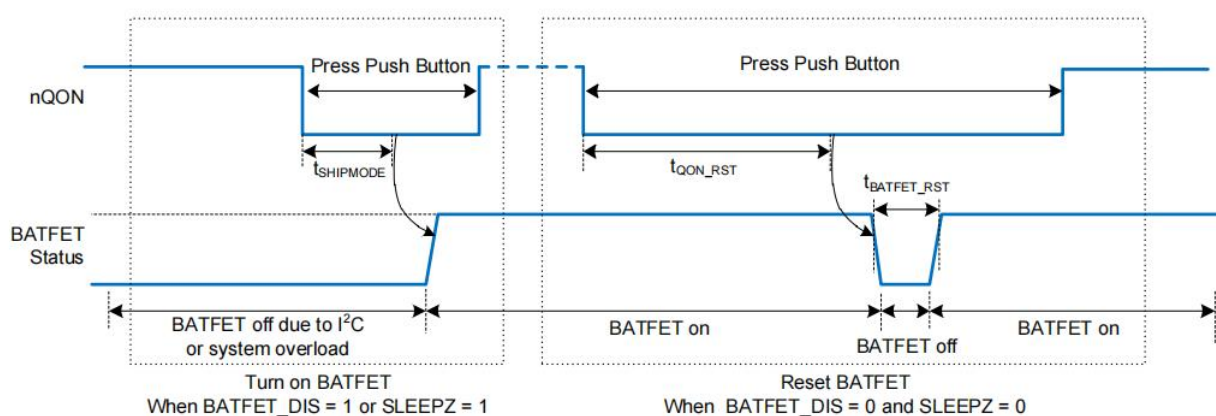

Figure 11. nQON Enable and Reset BATFET Timing
1. Enable BATFET: Applying an nQON logic high to low transition with longer than $t_{SHIPMODE}$ deglitch time (negative pulse) turns on BATFET to exit ship mode (Figure 11 left). HIZ is also enabled (EN_HIZ = 1) when exiting shipping mode.
2. Reset BATFET: By applying a logic low for a duration of at least t_{QON_RST} to nQON pin while VBUS is not powered and BATFET is allowed to turn on (BATFET_DIS bit = 0), the BATFET turns off for t_{BATFET_RST} and then it is re-enabled resulting in a system power-on reset. This function can be disabled by clearing BATFET_RST_EN bit (Figure 11 right).